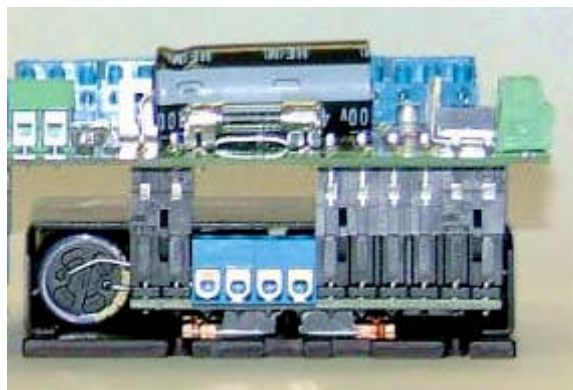

Figure 1 – Sample PMDX-132 and Geckodrive Assembly
4. Take the results from step (3) above and configure the four PMDX-132 jumpers JP5, JP6, JP7 and JP8 to supply to correct common reference to each Gecko drive. See section 5.4 for more information.
8. For each Gecko stepper driver module, install the motor current set resistor in the corresponding 2-pin terminal strip on the PMDX-132. When looking at the PMDX-132/Geckodrive assembly from the edge as shown in Figure 1, this would be the green 2-pin terminal strip above and to the right of each Geckodrive module.
10. The resulting assembly should look similar to Figure 1.